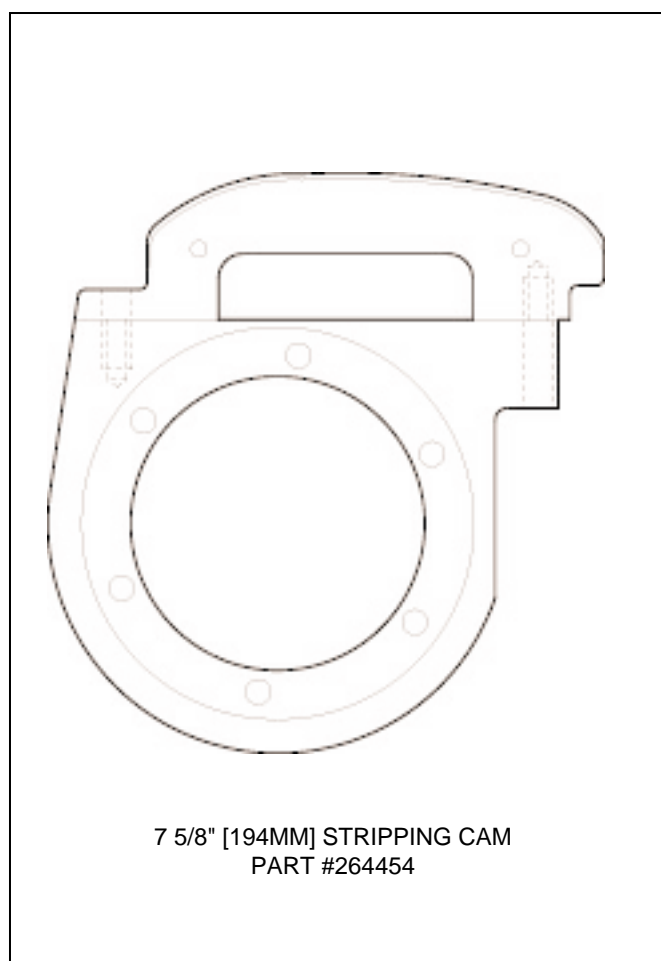

Figure 4.60 STRIPPING CAM INSERT
- 4.4.29 Install the **7 5/8" [194mm]** stripping cam insert **part # 264454** (see figure 4.60).